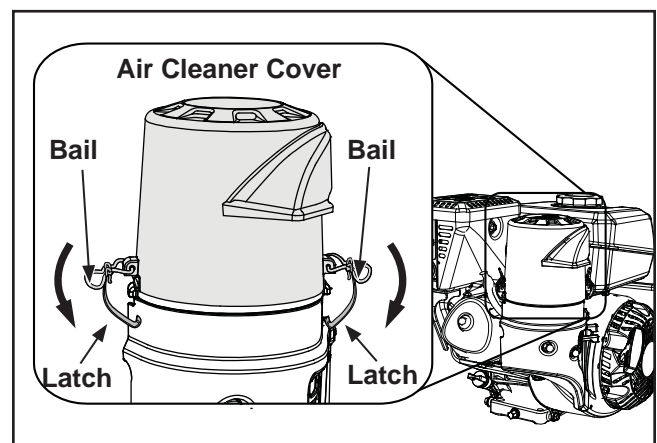

Figure 4-2. Air Cleaner Cover Removal.
1. Remove the air cleaner cover. Move the bails on the air cleaner cover down. Remove the latches from under the tabs of the air cleaner base. Lift and remove the air cleaner cover from the air cleaner base. See Figure 4-2.